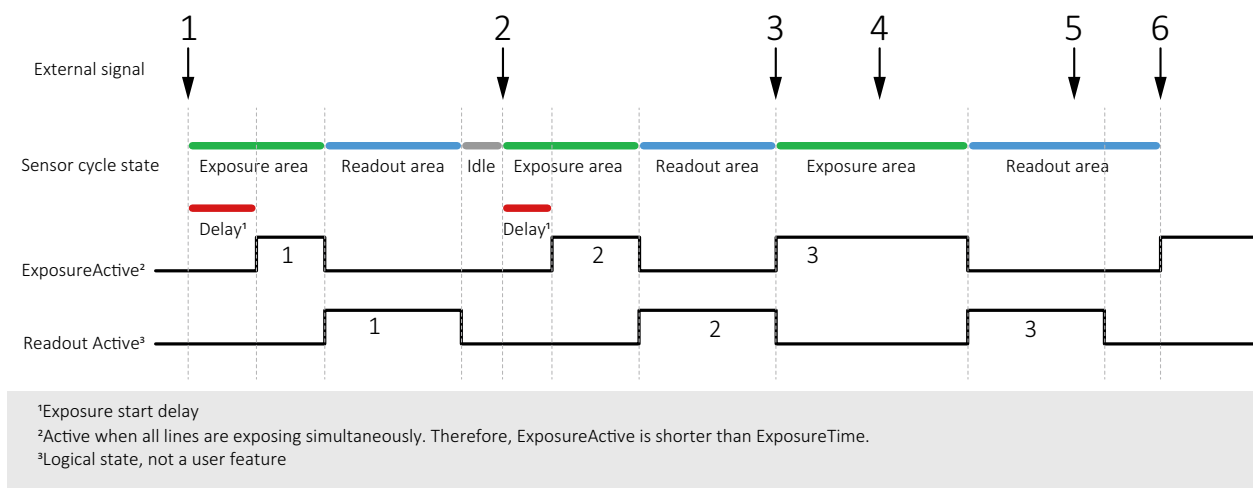

Figure 90: Triggering rolling shutter (RS) cameras
This section describes triggering behavior for **1800 U-500m/c, U-501m NIR, U-1240m/c, and U-2050m/c**. Figure 90 shows how an external signal triggers exposure and readout for cameras with rolling shutter (RS) sensors. Like for global shutter (GS) sensors, readout has a constant duration, acquisition must be active to enable exposure, the end of exposure starts readout.